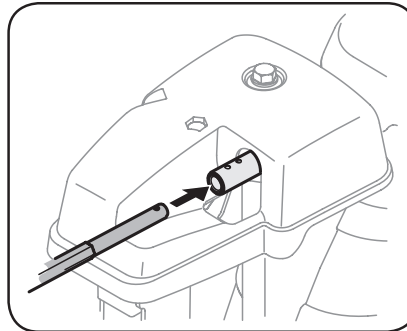

Figure 2-22
2. Insert chute control rod into chute control head. Push rod as far into chute control head as possible, keeping holes in rod pointing upward. See Figure 2-22.